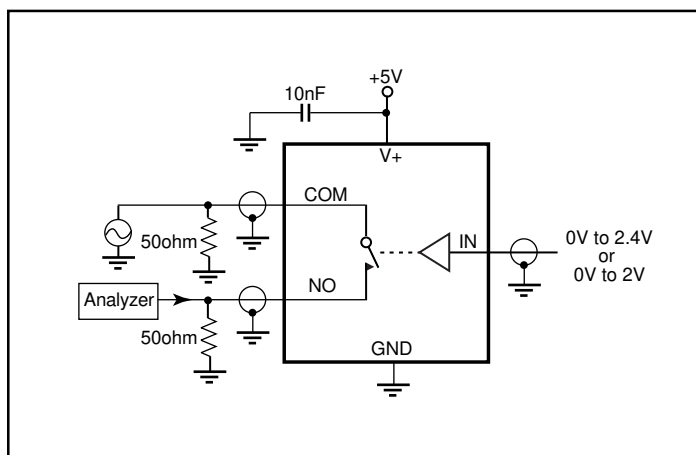

Figure 3. Off Isolation/On-Channel Bandwidth
7. Off Isolation = 20log₁₀ [V_{COM} / (V_{NO} or V_{NC})]. See Figure 3.